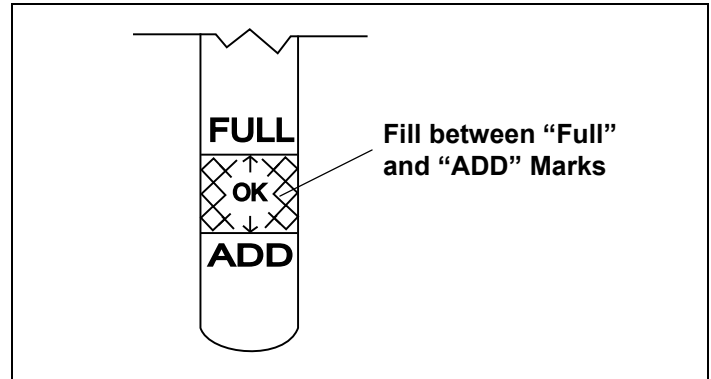

Figure 7. Engine Oil Level
- Keep oil level between “FULL” and “ADD” marks on dipstick. See Figure 7.
4. Unscrew and remove oil fill cap from oil filler tube. Note oil level. If oil reading on dipstick is below “ADD” mark, slowly add oil to reach “FULL” level. See Figure 7.